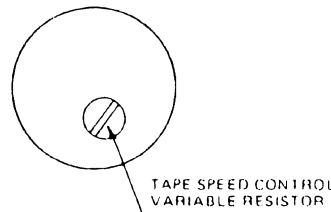

Figure 7
- Adjust variable resistor in motor to provide 3 kHz (1 kHz) frequency. (See Figure 7)